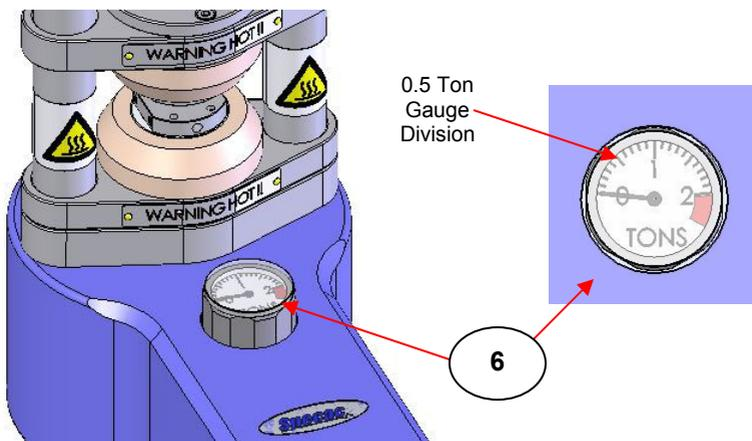

Fig 9. Mini-Film Maker Pressure Gauge
When the lead screw assembly (4) is hand tight, begin applying a tonnage load via clockwise turning of the pressure screw assembly knob (5). Usually a 0.5 ton load as indicated at the pressure gauge (6) is sufficient for the formation of a thin film. (See Fig 9).